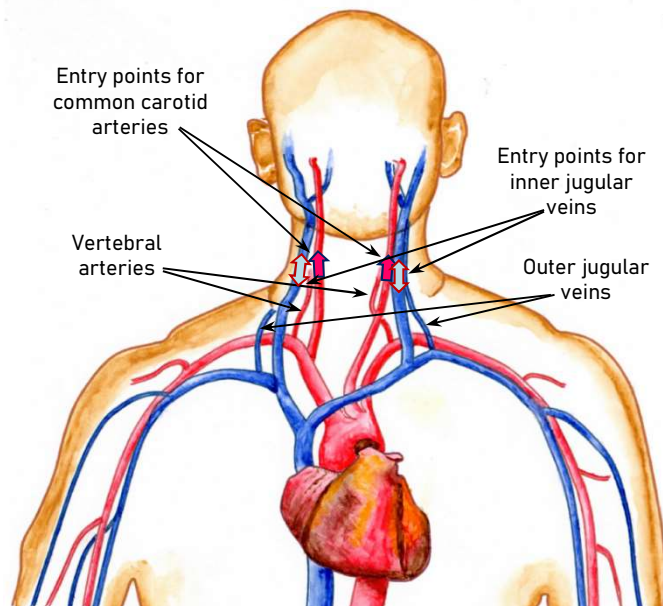

Figure D1 Entry points for carotid arteries and jugular veins
- INSERT A CANNULA INTO EACH OF THE TWO COMMON CAROTID ARTERIES (one either side of the neck) - see Figure D1;
- INSERT TWO CANNULAS INTO EACH OF THE TWO INNER JUGULAR VEINS (one either side of the neck) - see Figure D1;
The common carotid arteries split into the external carotid arteries, which supply blood to structures external to the skull, and the internal carotid arteries, which supply blood to structures internal to the skull, including the brain, pituitary gland, eyeball, nose and ear (see figure D1). Extensions of the internal carotid arteries form an arrangement of blood vessels at the base of the brain known as the cerebral arterial circle, or the Circle of Willis, from which arteries supply blood to most of the brain. The purpose of the cerebral arterial circle is to equalise blood pressure to the brain and provide alternative routes to the brain if arteries become damaged.